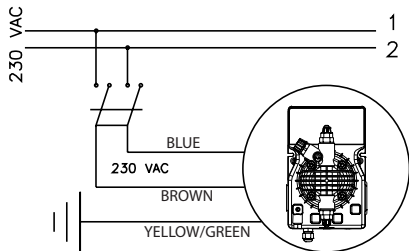

Fig. 4
1. **Disconnect the pins from the mains or by means of a two poles switch with 3 mm minimum distance between the contacts. (Fig. 4).**
1. Disconnect the pins from the mains or by means of a two poles switch with 3 mm minimum distance between the contacts. (Fig. 4).
b. - Carefully observe the regulations in force in the various countries as regards electrical installations (Fig.4). **When the supply cable is devoid of a plug, the equipment should be connected to the supply mains by means of a single-pole circuit breaker having a minimum distance of 3 mm between the contacts. Before accessing any of the electrical parts, make sure that all the supply circuits are open.**